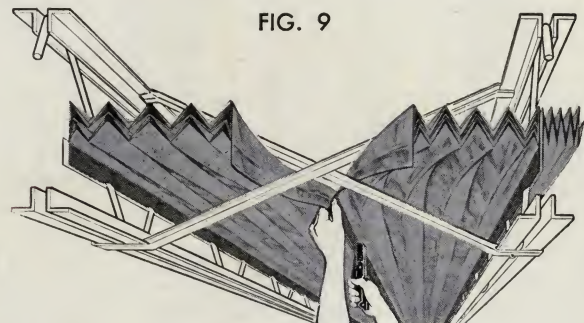

FIG. 9
3) Expand two *facing* insulation strips simultaneously in the same bay, toward each other, and staple the flanges together where they meet at the center. See Fig. 9.